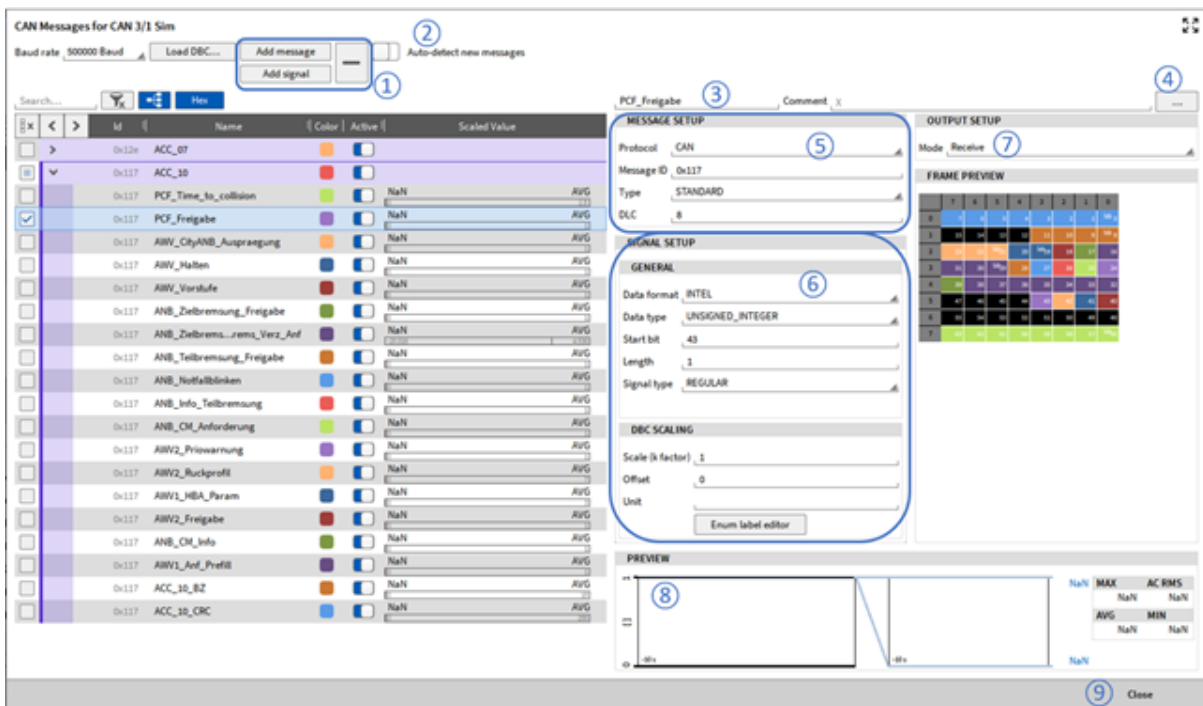

Fig. 7.209: CAN editor overview
- Manually add or delete CAN messages and signals (see ① in Fig. 7.209).
- Scan for CAN messages, which will automatically be created with their ID and DLC. After the scan, a name can be given and signals can be created (see ② in Fig. 7.209).
- Rename the currently selected CAN message and signal (see ③ in Fig. 7.209).
- Add comments to messages and signals (see ④ in Fig. 7.209).
- Edit CAN messages and access the same settings as described in section *CAN message setup* (see ⑤ in Fig. 7.209). With the enum label editor a text label can be defined for a specific, unique signal value which is then shown in the digital instrument (see also *Enum scaling*).
- Edit CAN signals and access the same settings as described in *CAN signal setup* (see ⑥ in Fig. 7.209).
- Set the CAN Message mode to Receive for acquiring data or transmit for outputting OXYGEN data over CAN (see ⑦ in Fig. 7.209).
- Providing a preview of the past 10 seconds of the signal to check if proper settings have been applied to the signal (see ⑧ in Fig. 7.209).
When finished you can exit the CAN editor again by pressing the Close button (see ⑨ in Fig. 7.209).